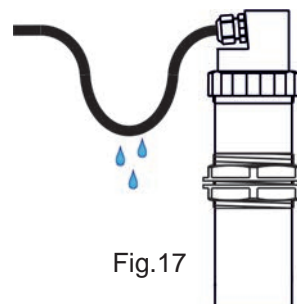

Fig.17
- position the cable so that it forms a downward curve at the M16 output (Fig. 17); in this way the condensation and/or rain water will tend to drip from the curve bottom